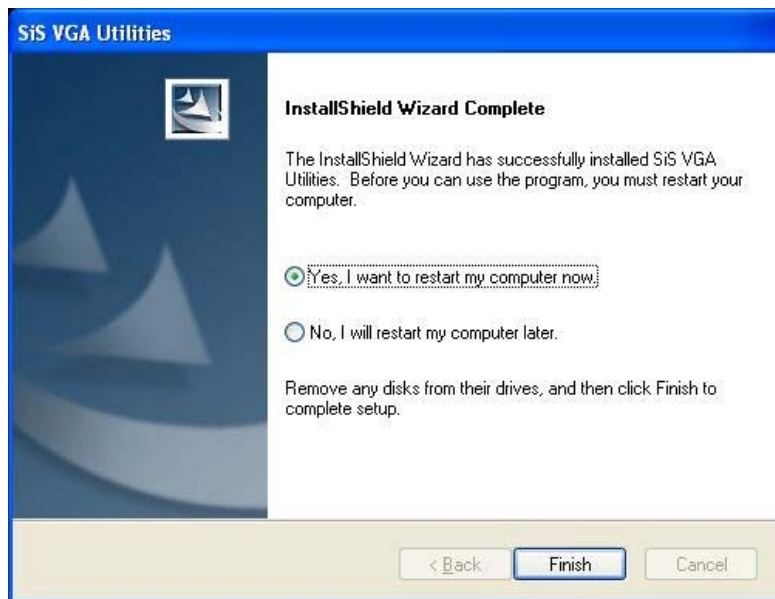

Figure 6-26: Restart the Computer
Step 6: After reading the ReadMe file, the confirmation screen appears and offers the option of restarting the computer now or later (**Figure 6-26**). For the settings to take effect, the computer must be restarted. Click **FINISH** to restart the computer.